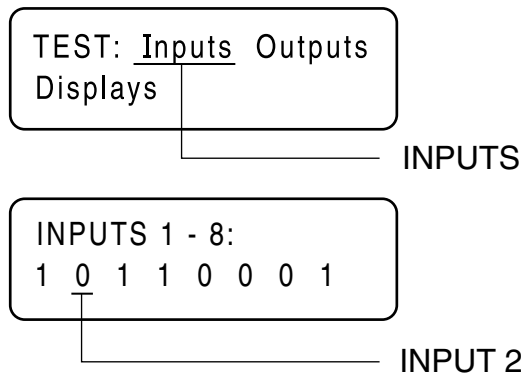

Figure 213. The Input Screens
- a. Digital Input 2 is Wire 86 from the Low Oil Pressure switch to the board. Refer to Figure 213.